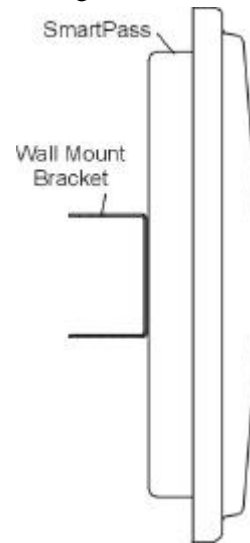

Figure 8-6 Wall Mount Bracket Attached to SmartPass
- Using the screws and washers set aside in Step 2, attach the wall mount bracket to the back of SmartPass, as shown in Figure 8-6.